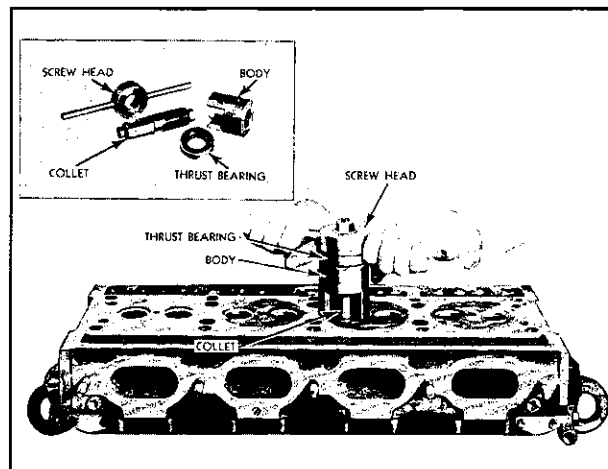

Fig. 7—Removing Valve Seat Insert.
**Removing Valve Seat Inserts**—The valve seat inserts may be removed with the tool illustrated in Fig. 7, in the following manner: